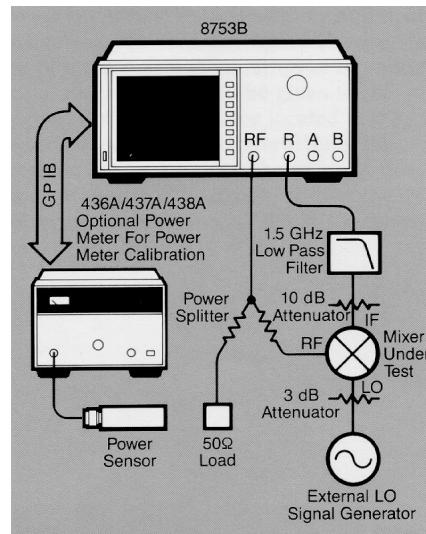

Figure 7. Block diagram for a swept IF/fixed LO conversion loss measurement
This step measures the frequency response of the components in the IF signal path (attenuator, filter, and cable) and stores it into memory. This memory trace will be used to remove the frequency response of these components from the conversion loss measurement to be made with the setup in Figure 7.
7. Connect the hardware as shown in Figure 7, terminating the open port of the power splitter with a 50-ohm load.
8. Set the external local oscillator (LO) source to the desired fixed frequency and power level.
To enhance measurement accuracy, replace the 50-ohm load at the power splitter with the power meter and power meter sensor, as shown in Figure 7. Perform a one sweep power meter calibration. This will level the power splitter's output power to a user specified value over the frequency range of the measurement.